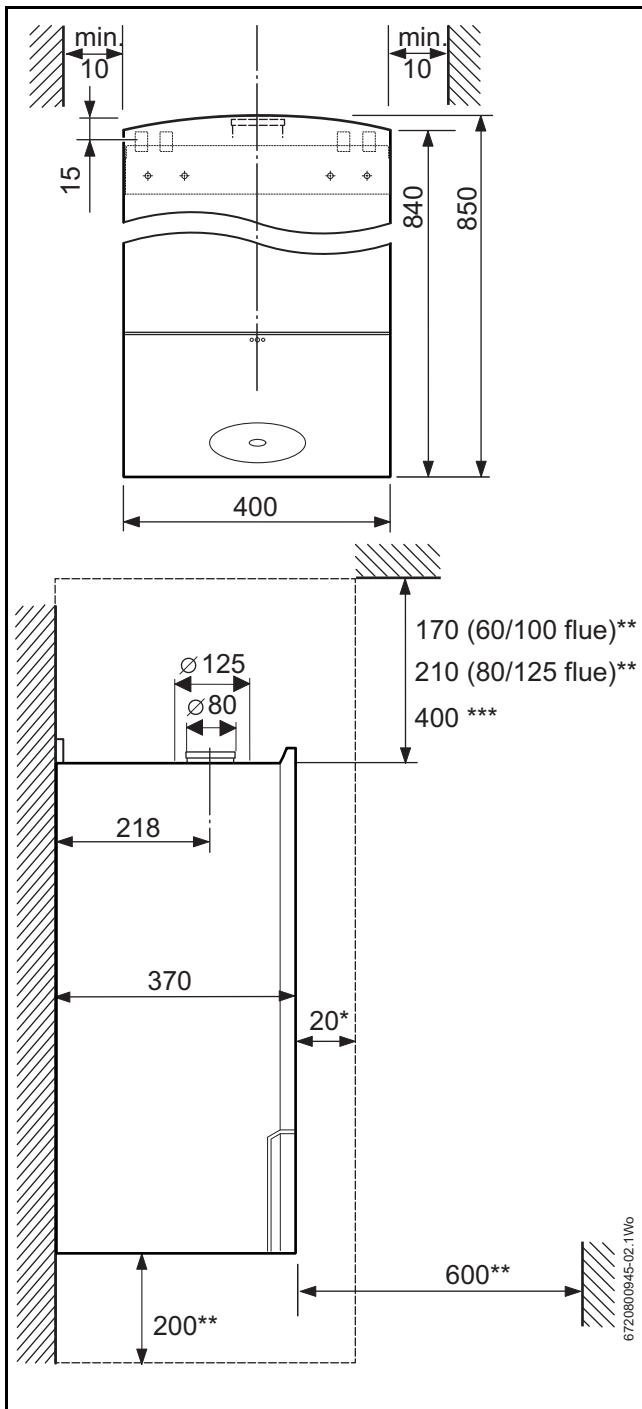

Fig. 15 Compartment clearances
- ▶ Refer to figure 15 for all concentric flue terminal positions unless the flue position is specified on the figure above “Plume terminal positions”.